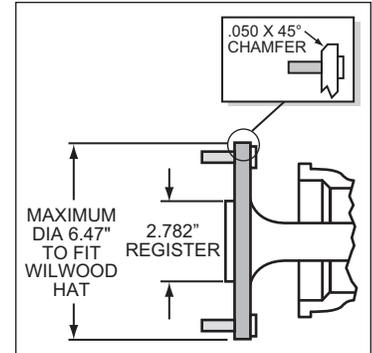

Figure 2. Axle Flange Maximum Dimension
- Maximum axle flange diameter must be no larger than 6.71" w/.050" x 45° chamfer (see Figure 2, right).